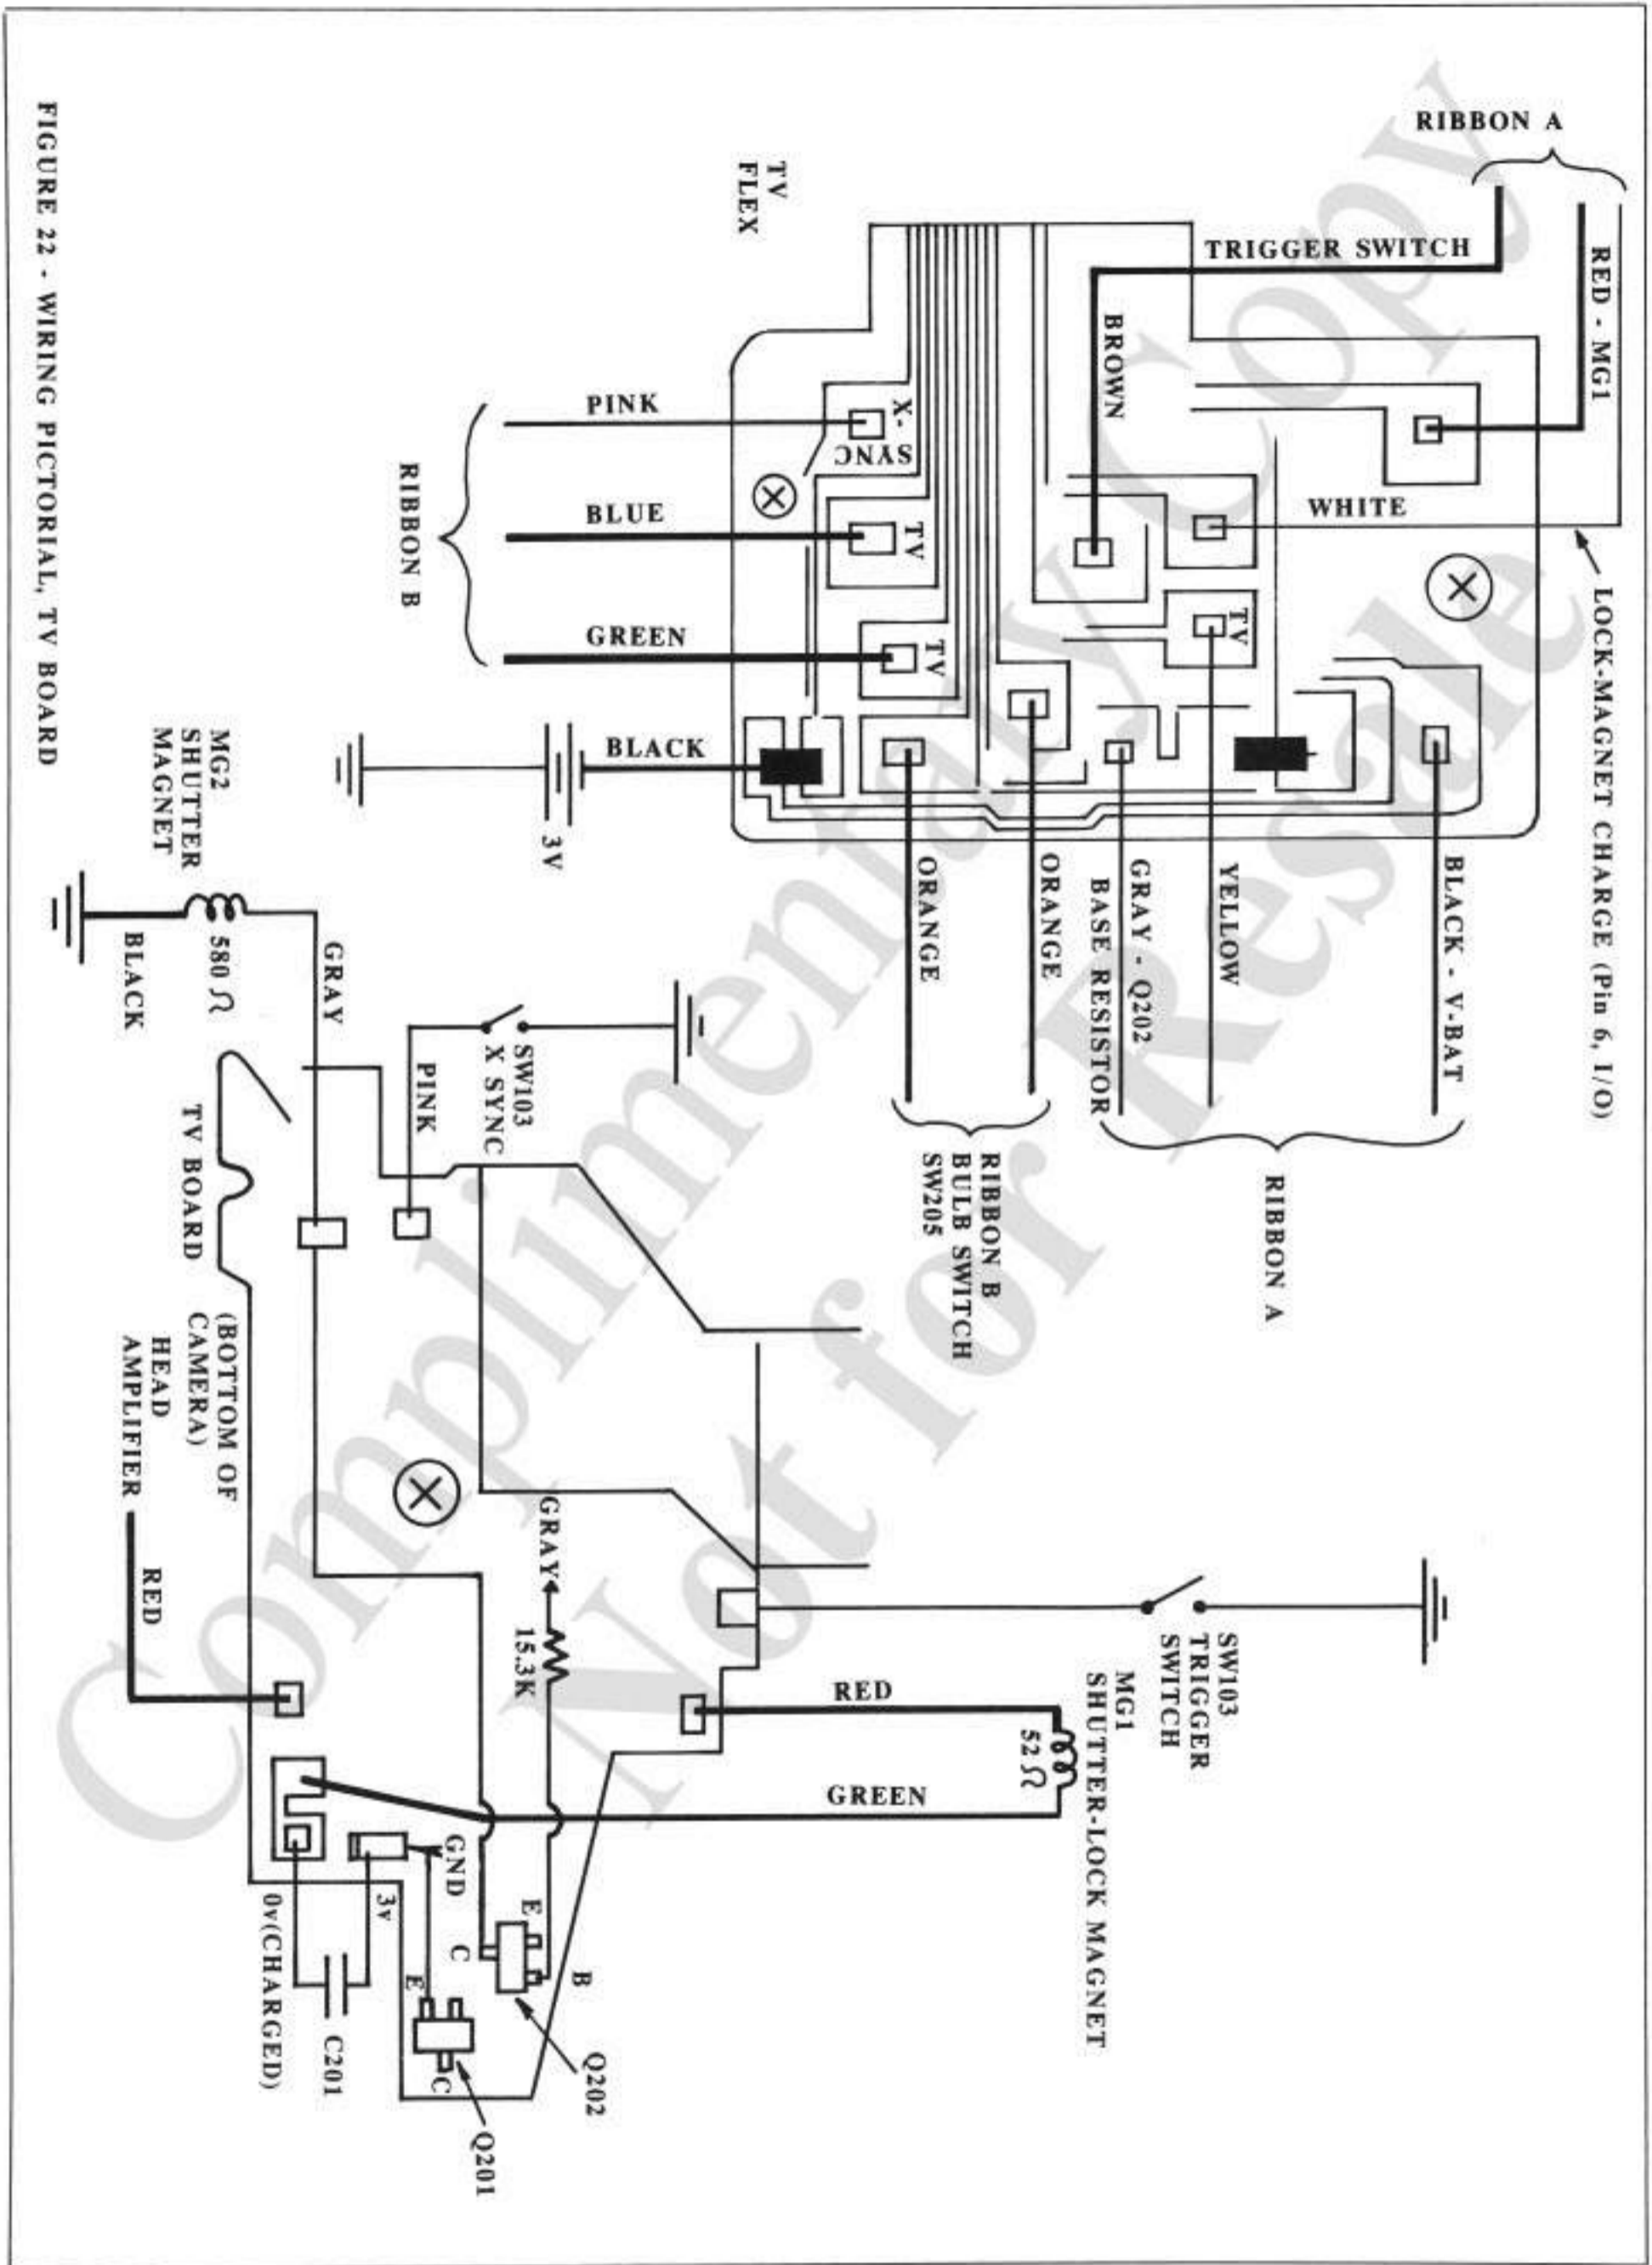

FIGURE 22 - WIRING PICTORIAL, TV BOARD
TV board, Fig. 22
Note: If you're replacing the TV board, unsolder all the wires from the TV flex, Fig. 22. If you're just removing the TV board to reach the shutter block, it's only necessary to unsolder the black negative-battery wire.
2. unsolder trigger-switch lead from TV board, Fig. 22